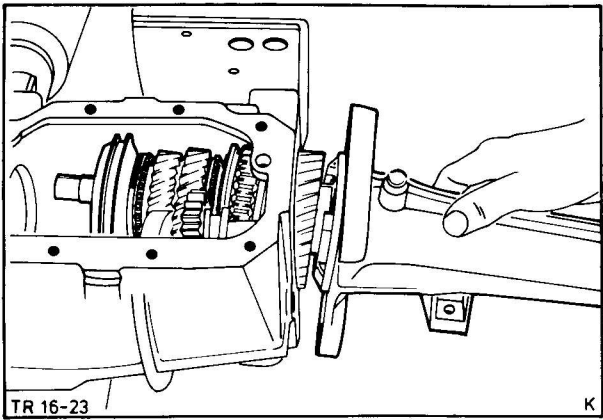

Fig. 27. Remove extension housing complete
13. Remove extension housing with mainshaft assembly, Fig. 27.